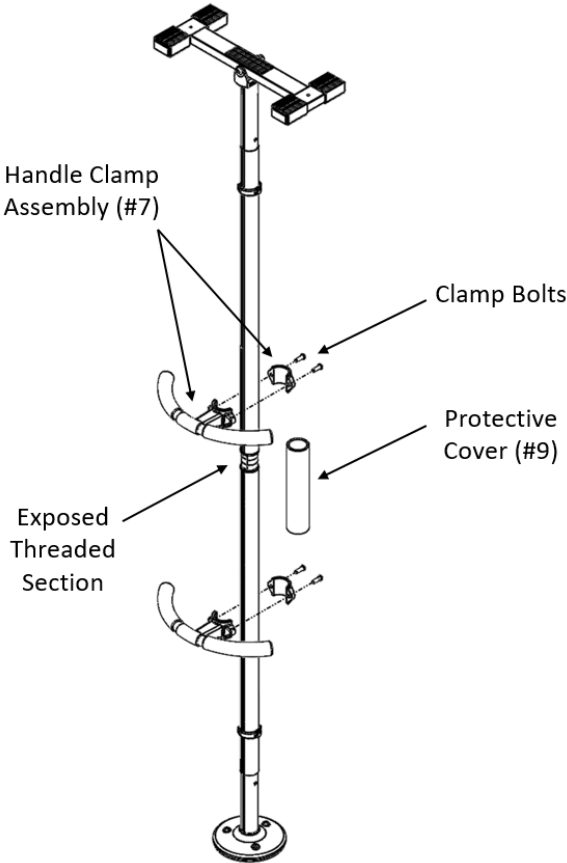

FIGURE 8
8. Only attach the HANDLE CLAMP ASSEMBLIES (# 7) onto LARGE DIAMETER TUBES (# 3) at the desired location and orientation that best suits the user's needs. Separate the clamp area of the HANDLE CLAMP ASSEMBLIES (# 7). Position the clamp area around LARGE DIAMETER TUBES (# 3) and tighten the Clamp Bolts to the Clamp Nuts with the included Allen wrench as shown in Figure 8.
9. Secure PROTECTIVE COVER (# 8) around exposed threaded area of THREADED ADJUSTMENT ASSEMBLY (# 4) as shown in Figure 8.